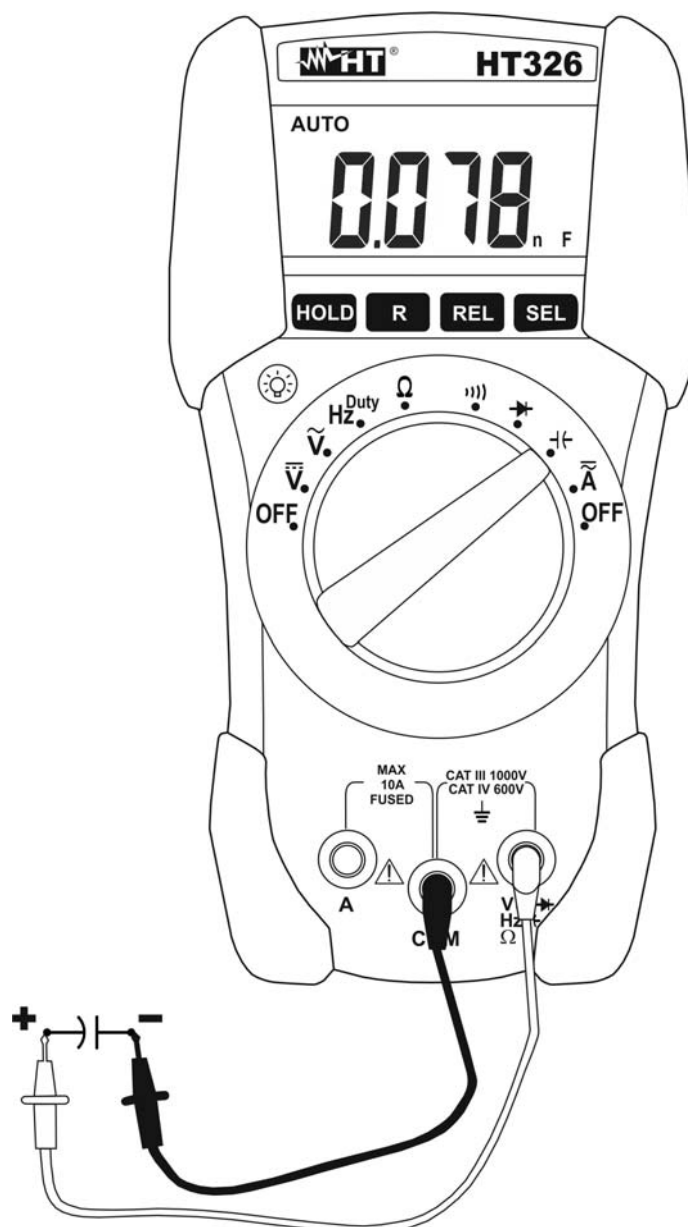

Fig. 10: Using the instrument for Capacitance measurement
3. Connect the red and black test clamps to the capacitor terminals respecting if necessary the proper polarities (see Fig. 10). The capacitance value is shown on display.